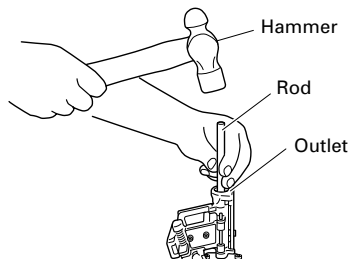

Fig. 11
- (1) Remove the nail roll from the magazine, open the nail guide, insert a rod into the outlet and tap the rod with a hammer. (Fig. 11).